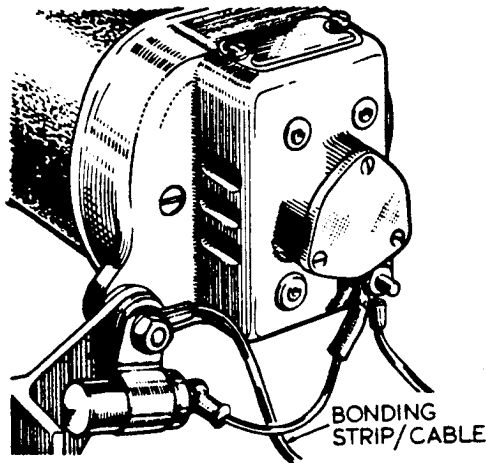

Fig. 2.
2. On existing dynamos, the bracket is insulated from the dynamo by means of special fibre bushes and washers, the bonding cable being attached to the rear mounting bolt as in Figs. 2 and 3.